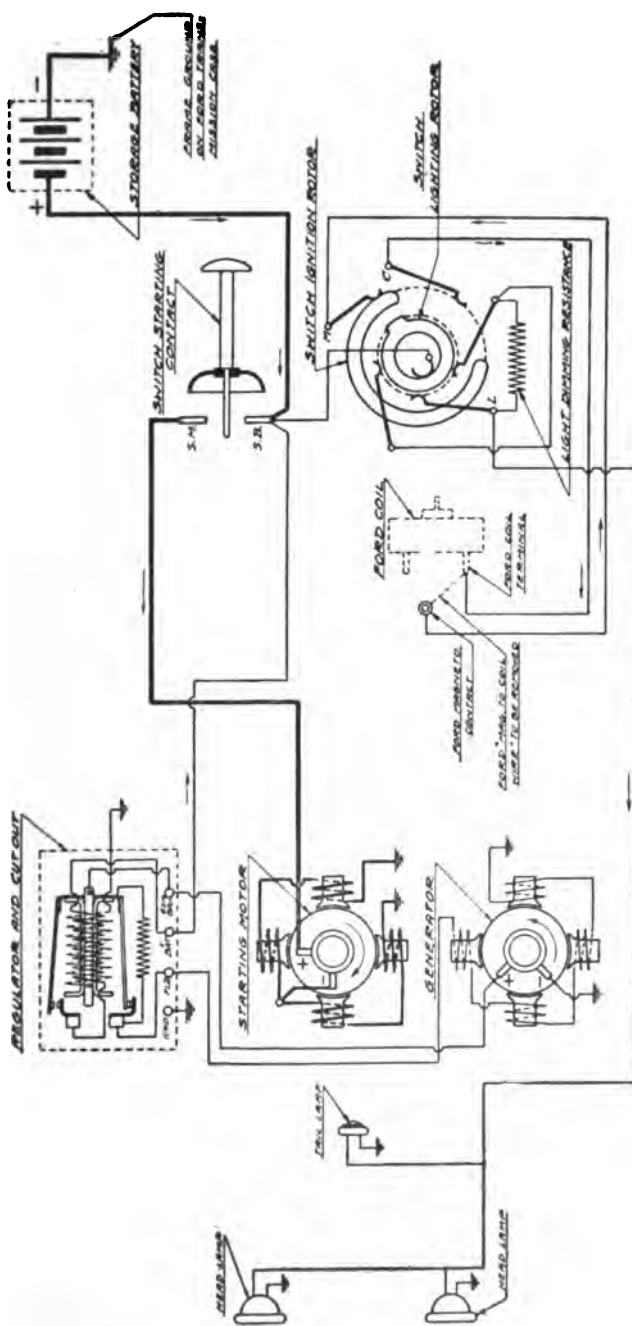

Fig. 399. Wiring Circuit of Heine-Springfield Ford System without Ammeter or Dash Lamp
*Coil and Magneto Wiring.* Extending through the 13-inch length of the circular loom are two wires, one end of each being connected to the spring terminals *C* and *M* on the back of the switch, Fig. 398. Connect the wire from the terminal *C* to the magneto terminal on the rear of the Ford coil box; connect the wire from the terminal *M* to the magneto contact on the flywheel housing. These two terminals were formerly connected by the Ford "magneto to coil wire", which has been discarded, Fig. 399.